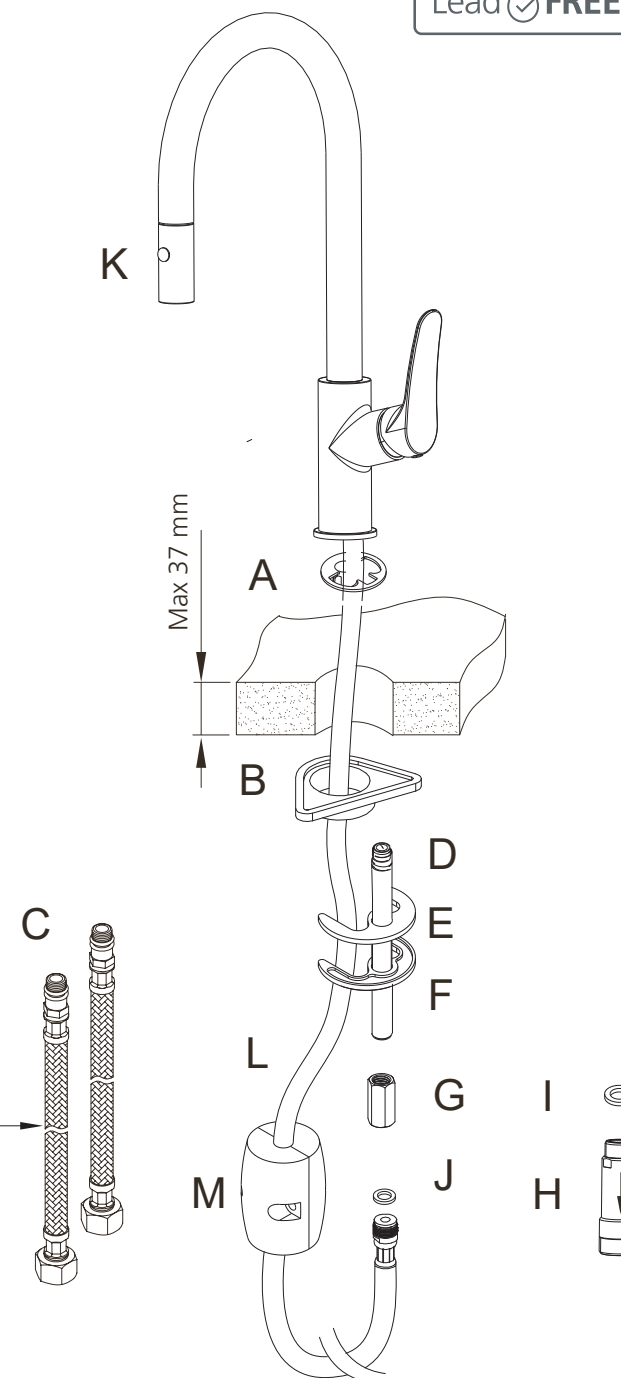

FIGURE 1
3. Ensure Product is complete as per exploded drawing (Figure 1).
6. Ensure bench sealing washer (A) is in place on base of the Mixer.
7. Firmly screw the Mixer Tails (C) into base of the Mixer being careful to avoid damage to the o'ring seals. The Mixer Tails are colour coded, red for hot and blue for cold, the Mixer base inlet holes are stamped with 'H' for hot and 'C' for cold, or red mark for hot and blue mark for cold. Hand tighten only.
8. Screw Threaded Rod (D) into base of Mixer.
9. Feed the Mixer Tails (C) and (L) through the mounting surface and the Stabiliser Plate (B), and position the mixer on the mounting surface ensuring the sealing washer (A) and Stabiliser Plate (B) are positioned correctly.
10. Slide Rubber Horse Shoe (E) onto the Threaded Inlet Tube (D) followed by Metal Horse shoe Plate (F).
11. Using Fixing Nut (G) tighten Mixer to the mounting surface.
12. Screw Dual Check Valve (H) to end of Inlet Tube (D) ensuring sealing washer (I) is in place.
13. Screw male threaded end of Braided Hose (L) into Hose Dual Check Valve (H) ensuring sealing washer (J) is in place.